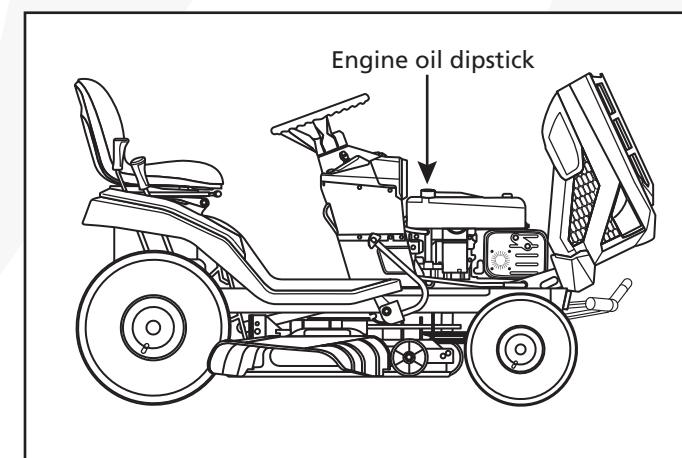
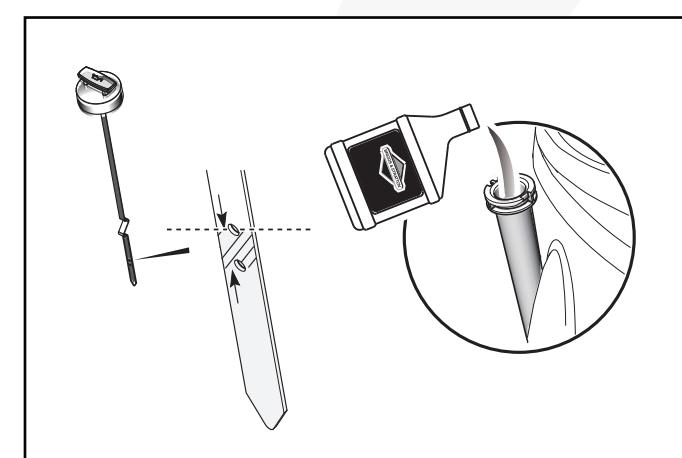

Fig. 13
Fig. 14
3. Remove the dipstick (Fig. 13 & Fig. 14). Wipe clean the remaining oil from the dipstick.
8. If the oil level is LOW, add oil into the oil fill tube. (Fig. 14)